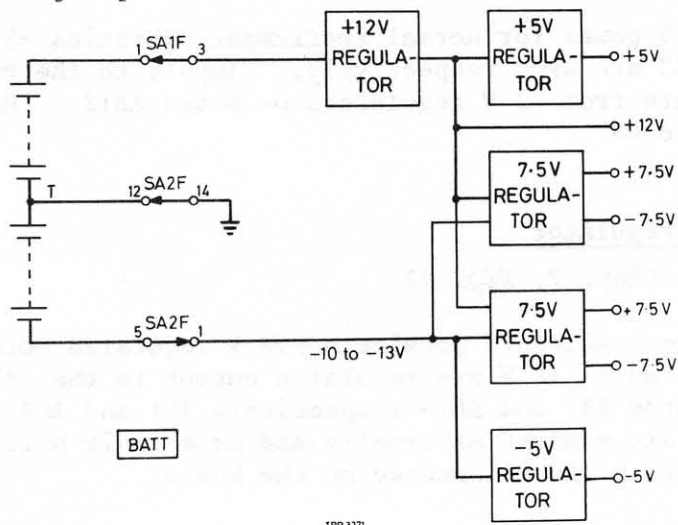

Fig. 21 Battery operation with SUPPLY selector set to BATT
66. For battery operation the SUPPLY selector is set to BATT and the output provides power for normal instrument operation except that power is not supplied to the GPIB interface board (see Fig. 21).